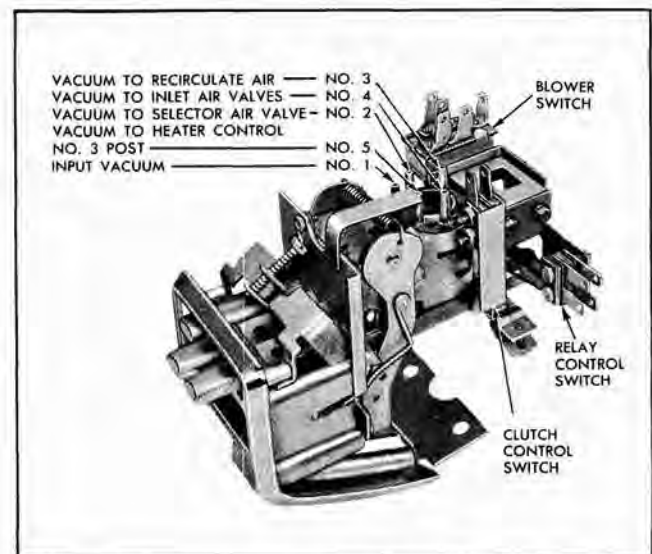

Fig. 5-44 Location of Clutch and Relay Control Switches
2. Remove clutch control switch by removing two switch attaching screws ( $\frac{1}{4}$ ") (Fig. 5-44).
2. Remove relay control switch (Fig. 5-44).